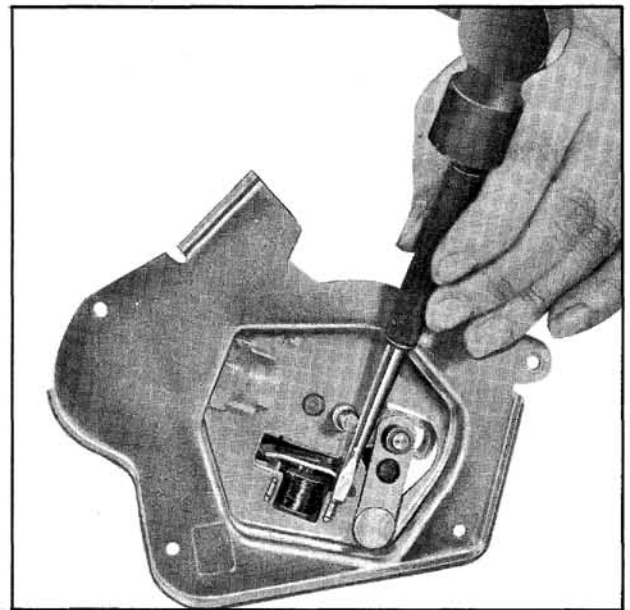

Fig. 13-210 Removing Relay
5. Remove relay as shown in Fig. 13-210.